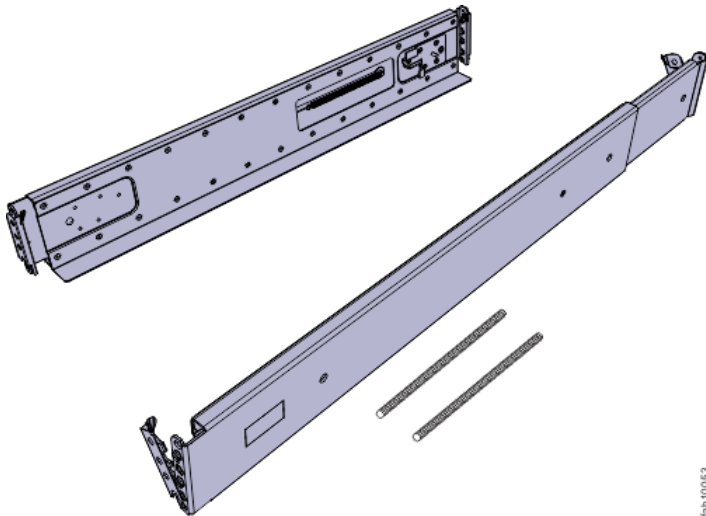

Figure 118. Expansion enclosure support rails
1. Locate the expansion enclosure rails (Figure 118 on page 158).